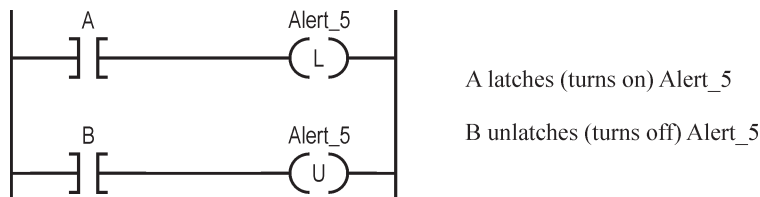

Figure 2.8. Latch and unlatch coil example.
2. The latch and unlatch coils are used in conjunction with each other. Figure 2.8 is a short example using these two coils in conjunction to control an alert.